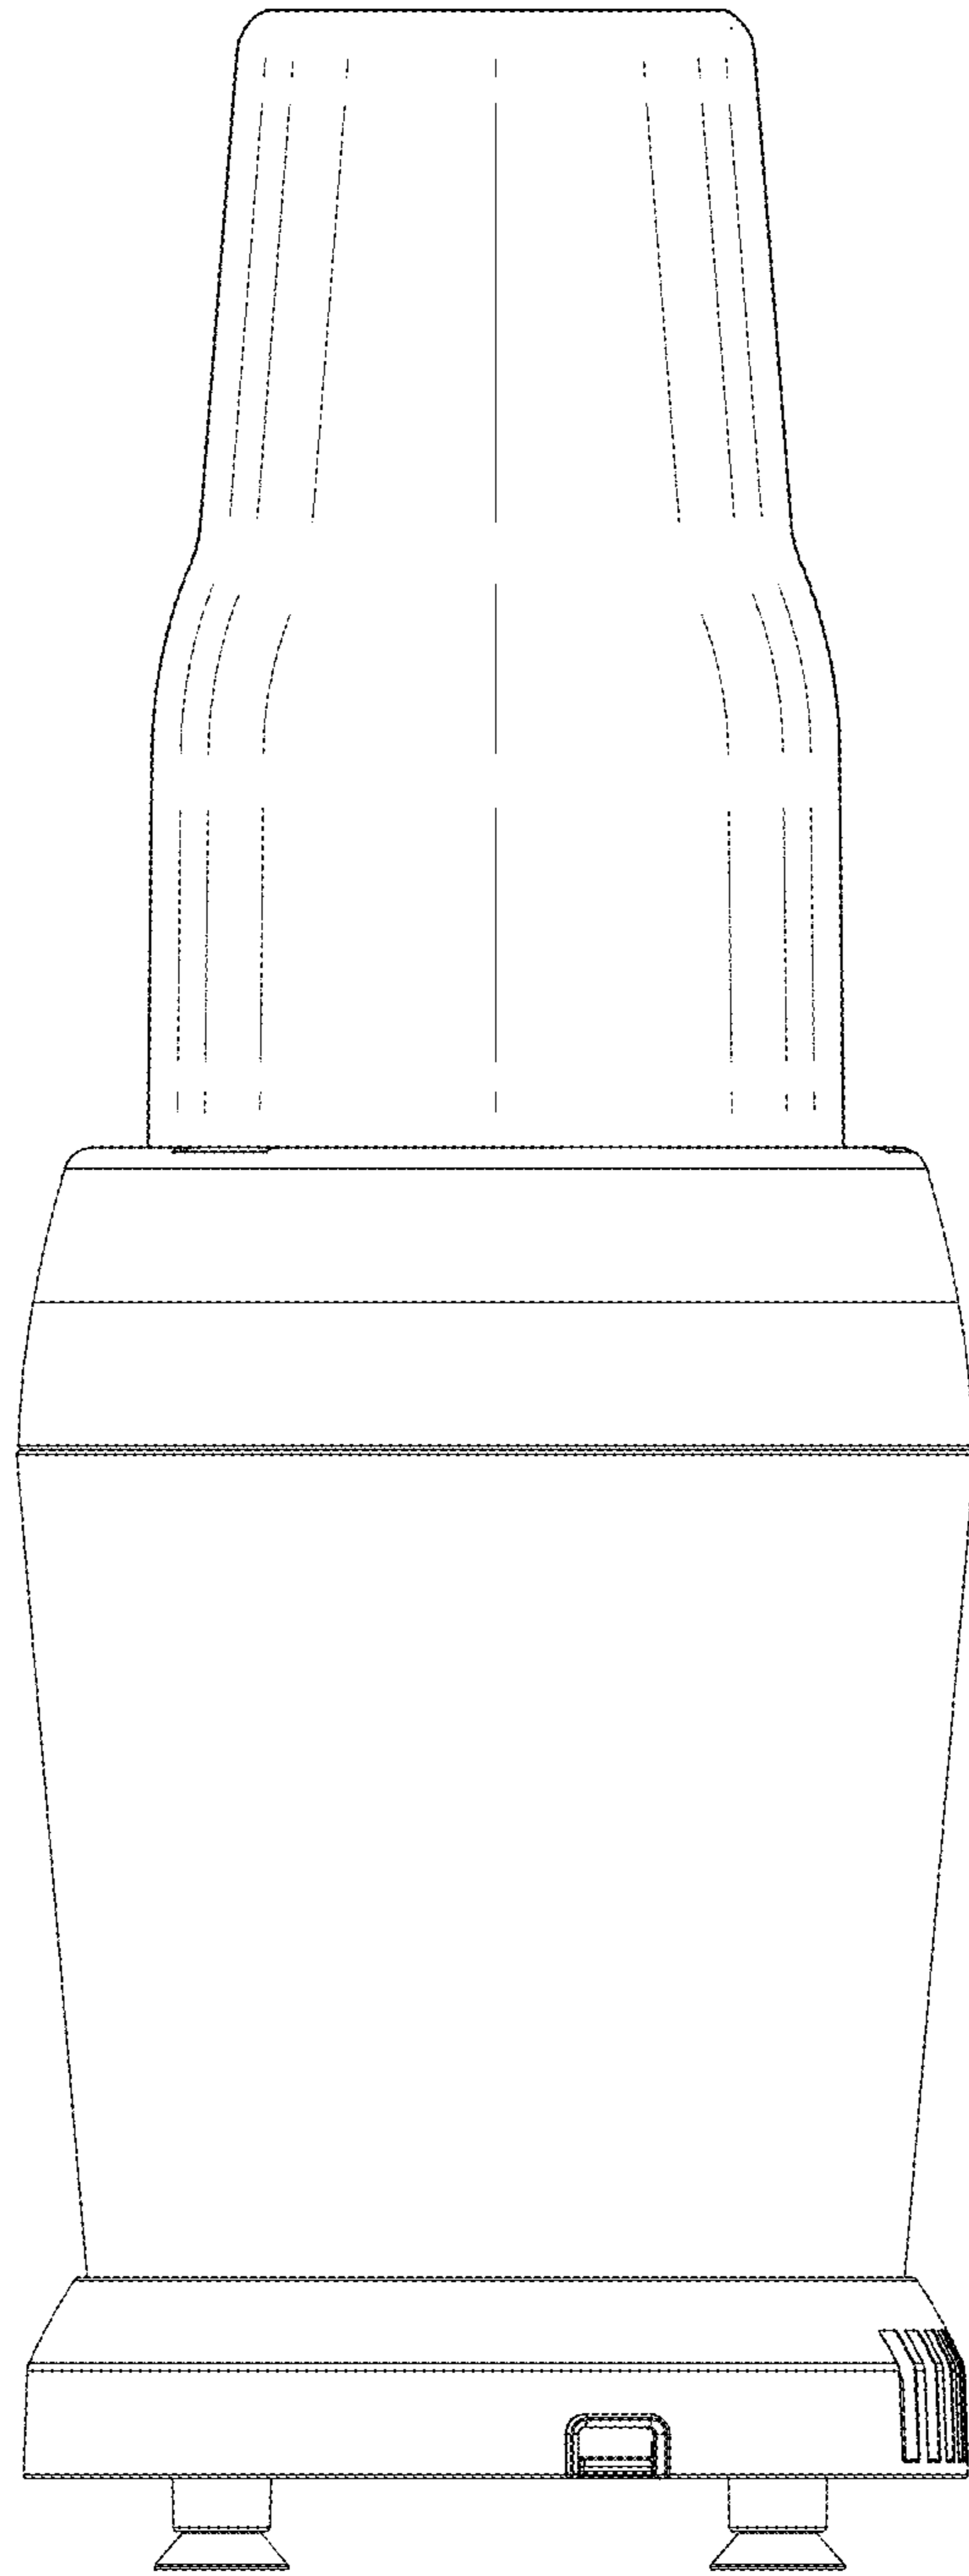

FIG. 3
- FIG. 3 is a right side view thereof.